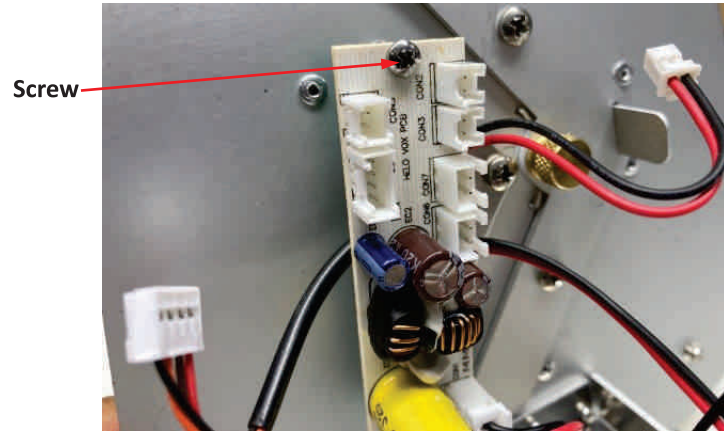
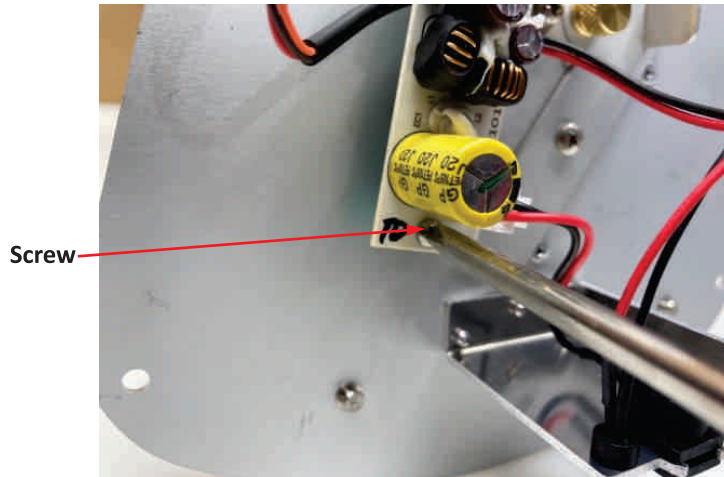

Figure 14
Figure 15
- Use a Phillips screwdriver to unscrew two (2) screws holding the electrical power board in place, remove and set aside. Refer to Figure 14 and Figure 15